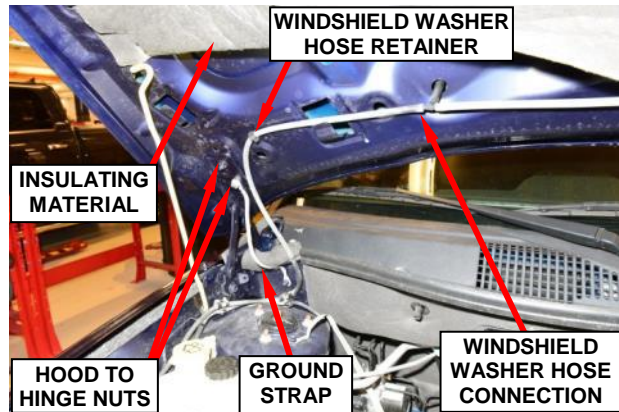

Figure 1 – Vehicle Hood
A. (MK) Engine Replacement
3. Disconnect windshield washer hose from the connection under the hood insulating material and remove the hose from the hose retainer (Figure 1).
4. Remove and save the four nuts attaching the hinges to the hood. Take note of the hood ground strap location (Figure 1).